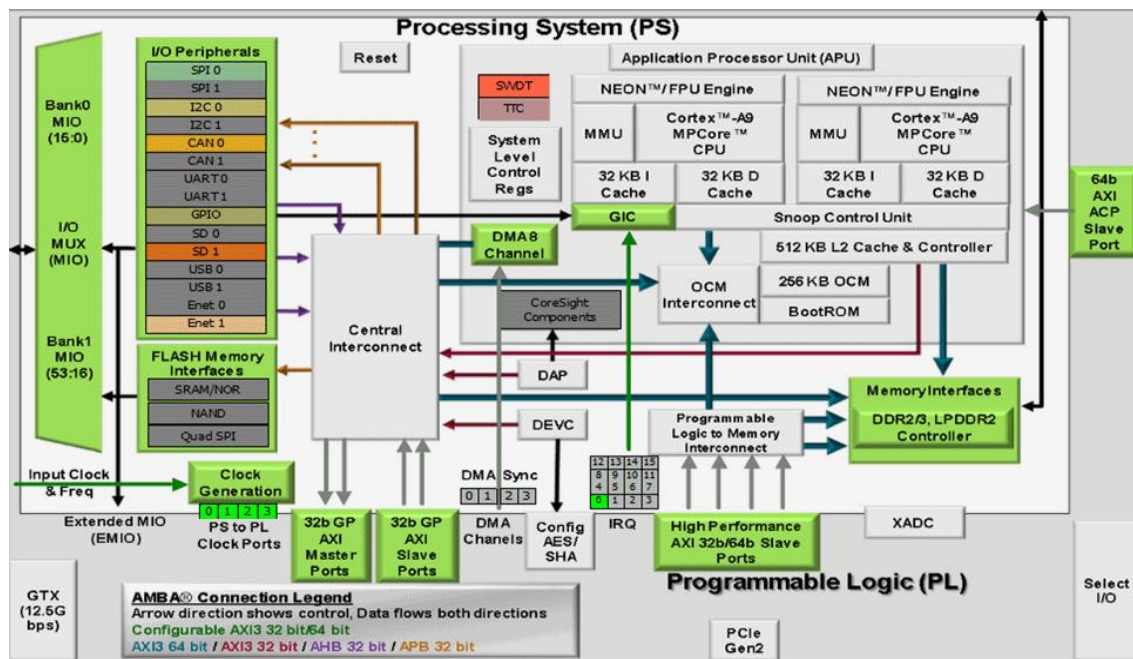

Figure 4.1.1 - Overall block diagram of the ZYNQ 7000 chip
The development board uses a Xilinx Zynq 7000 series chip , model XC7Z010-1CLG400C . The chip's System-on-PS (PS) integrates two ARM Cortex™-A9 processors, AMBA® interconnect, internal memory, external memory interface, and peripherals. These peripherals mainly include a USB bus interface, Ethernet interface, SD/SDIO interface, I2C bus interface, CAN bus interface, UART interface, GPIO, etc. The PS can operate independently and boot upon power-on or reset. The overall block diagram of the ZYNQ7000 chip is shown in Figure 4.1.1.